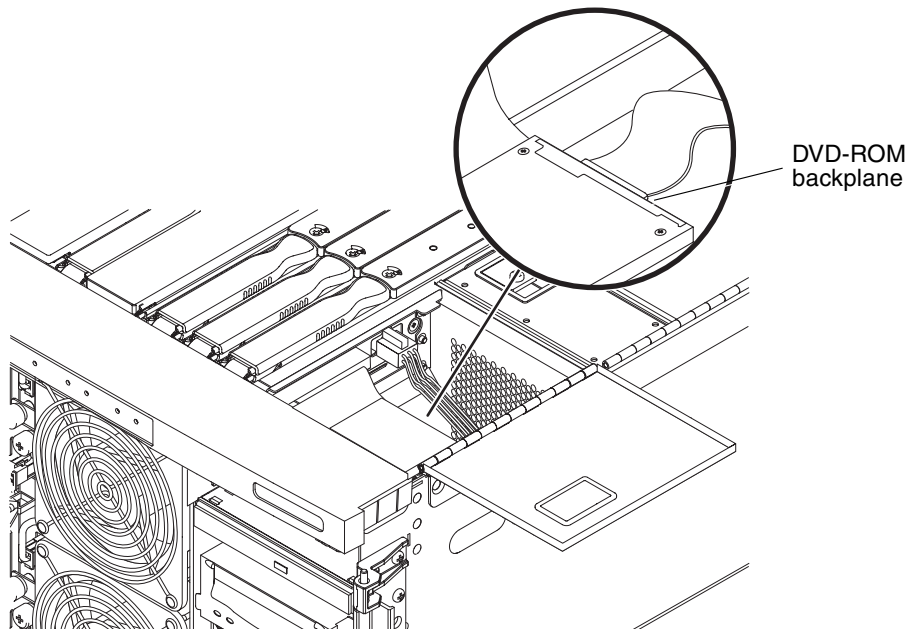

FIGURE 5-19 DVD-ROM Backplane
4. Remove the DVD-ROM backplane, which is the small board located at the back of the DVD-ROM drive (FIGURE 5-19).